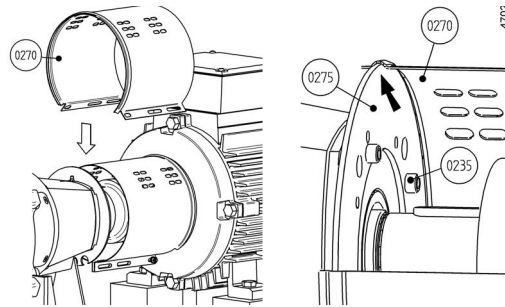

figure 20: *Fitting jacket at pump side.*
- 4 Mount the assembly plate (0275) to the bearing cover (2115) with bolts (0235). See figure 20.
- 5 Mount the coupling key (2210) and mount the coupling half onto the pump shaft.